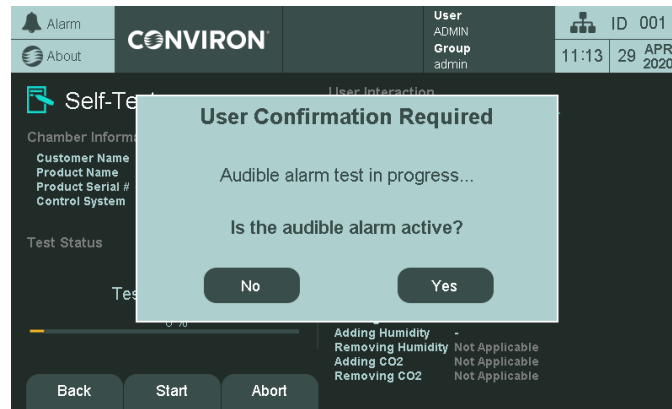

Figure 10-10 Audible Alarm Confirmation Message
5. Press the Start icon (Figure 10-10) to begin testing the chamber. Once Start is pressed, Self-Test mode will begin with the User Interaction tests.
6. When prompted, click Yes or No to indicate whether or not the buzzer is functioning correctly (Figure 10-10).